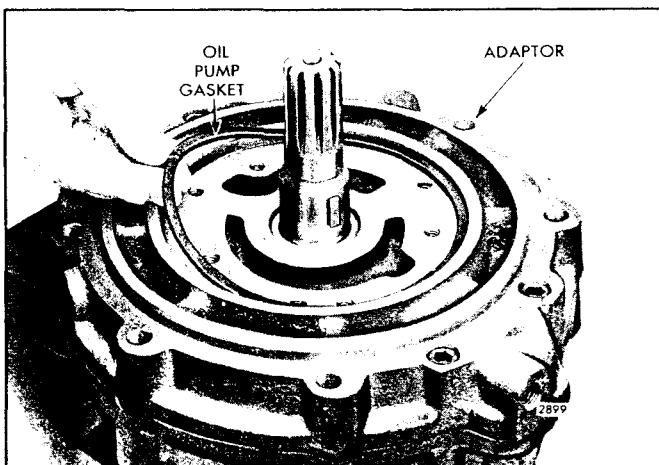

Fig. 85 - Installing Oil Pump Gasket in Adaptor
- Place the oil pump to gear housing adaptor gasket in the oil pump cavity of the adaptor as shown in Fig. 85.